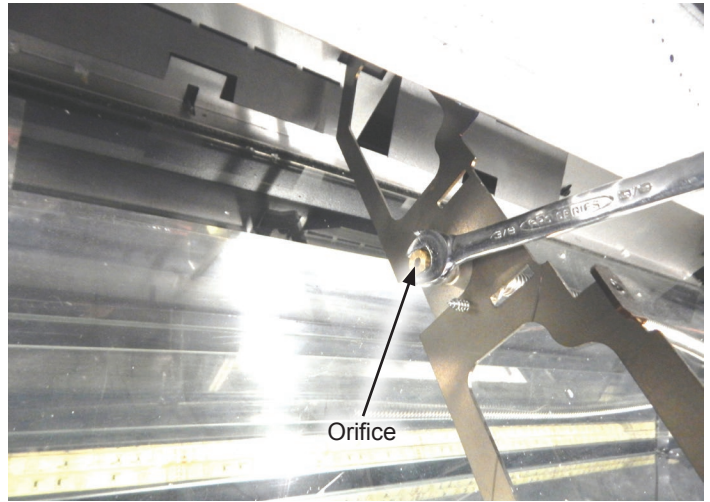

Figure 6
12. Using a 3/8" wrench, remove the #31 orifice from the orifice holder and discard. **See Figure 6.**
13. Install the new #50 orifice into the orifice holder. Do not overtighten. **See Figure 6.**